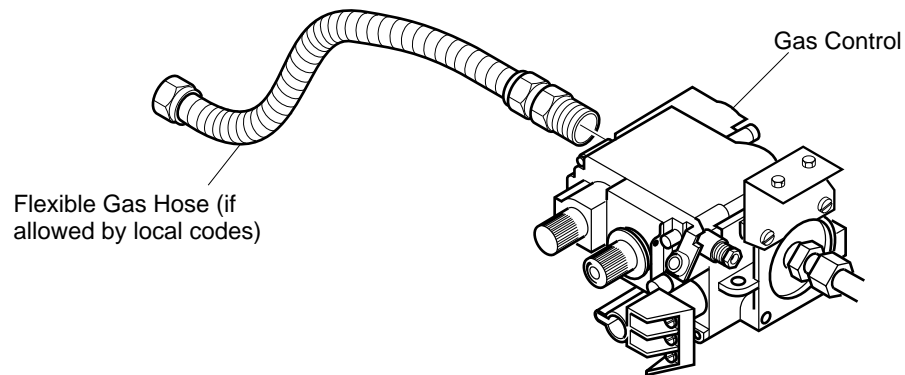

Figure 10 - Attaching Flexible Gas Hose to Heater Gas Regulator
1. Apply pipe joint sealant lightly to male threads of gas fitting. Connect approved flexible gas hose to inlet side of gas control (see Figure 10).